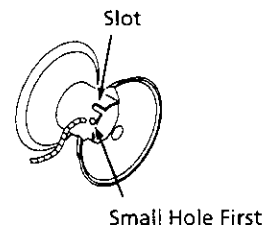

Figure 15 - Inserting New Cable
4. Insert the new cable through the small hole and then bring it up through the slot (See Figure 15).